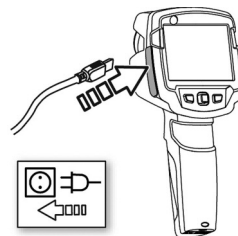

Figure 6 – Charging the Battery
2. Connect the USB cable to the thermal imager USB Interface (Figure 6).
Press OK key to open the menu. Move the Joystick up/down to highlight a function (red border) (*Figure 6*). Press OK key to select the function. Move the joystick to right to open the submenu (marked with >). Press OK key to select the function.